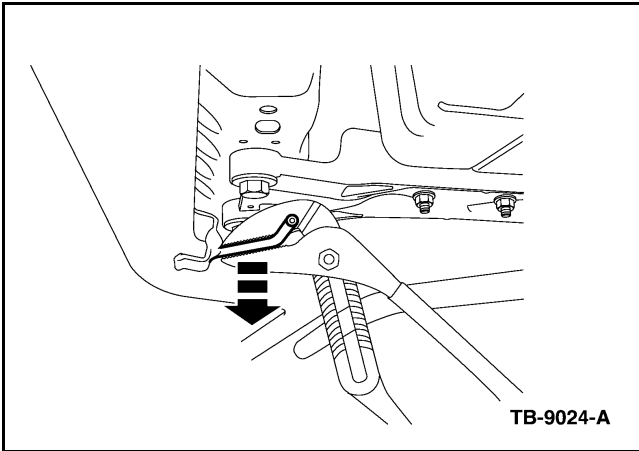

Figure 3 - Article 08-3-4
4. Bend exhaust hanger rod to a horizontal position to create approximately 2" (50 mm) clearance to the transmission cross-member (Figures 3 and 4).